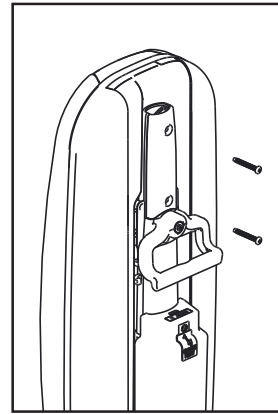

Fig. 1
- Secure with two screws removed in Fig. 1. Tuck the cord into the space to the left of the handle.